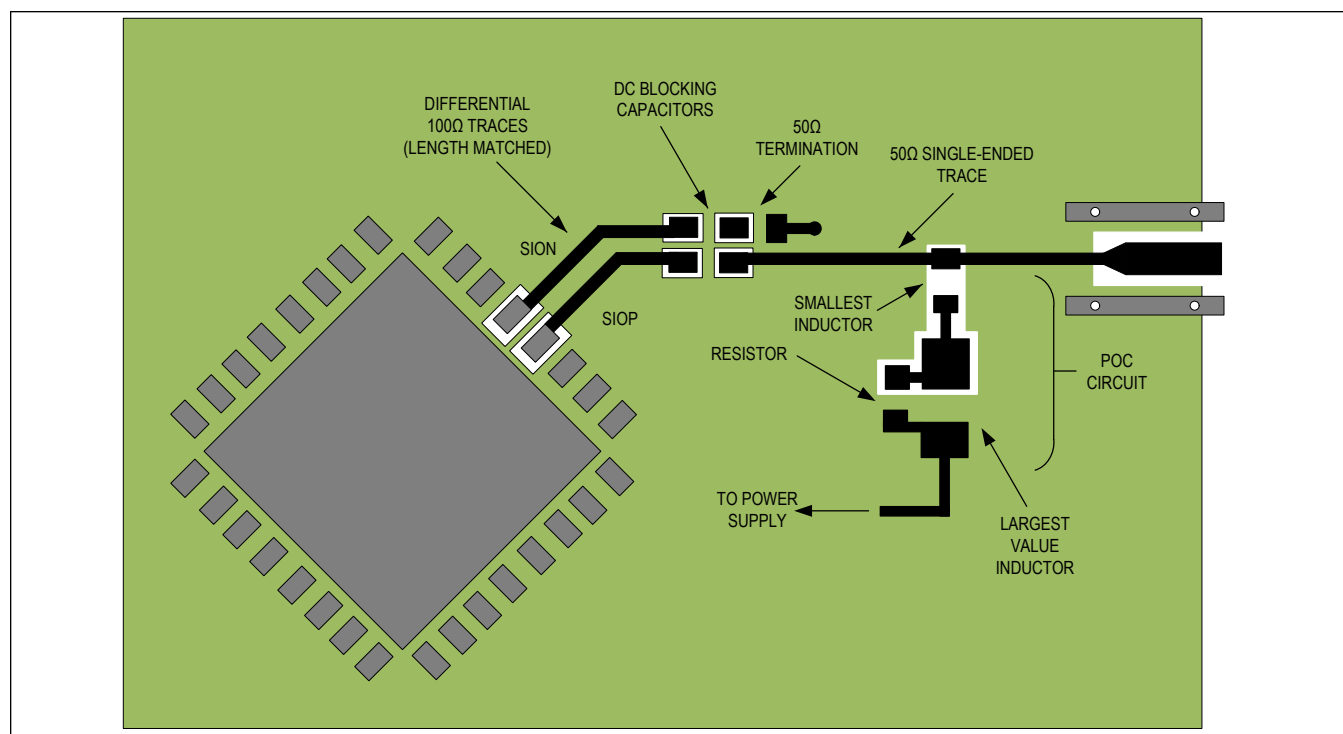

Figure 22. Coax PoC Layout Example
- Using ground cutouts as needed under the first two inductors and resistors. See Figure 22.